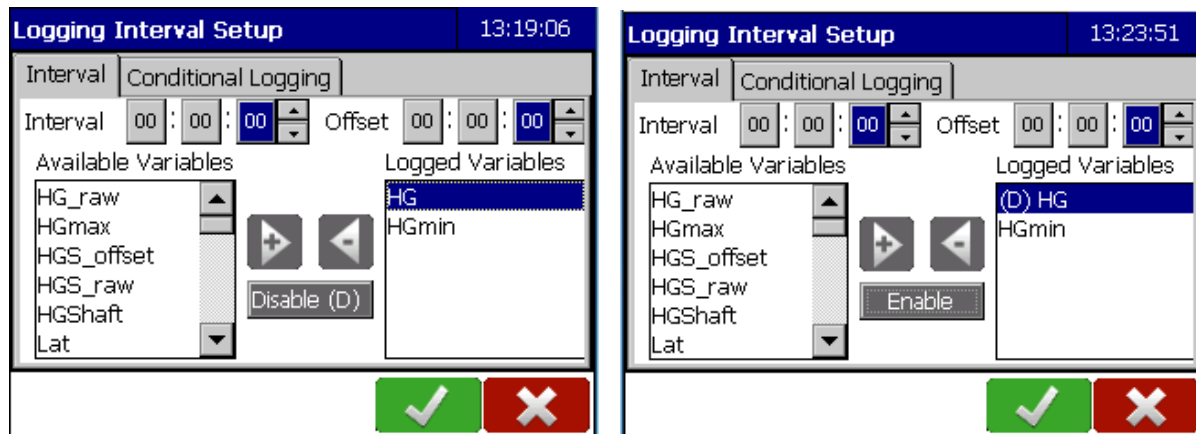

Figure 8-4: Logging Interval Setup – Enable/Disable logging
Once a variable has been selected to be logged as a data point, logging can be disabled. When a data point in the **Logged Variables** is selected (highlighted in blue), the grey **N/A** field displays a **Disable(D)** command. Pressing on the Disable button will disable the selected variable which will then be shown with a (D) preceding its name. The right hand screen in Figure 8-4 shows that the HG variable logging has been disabled.